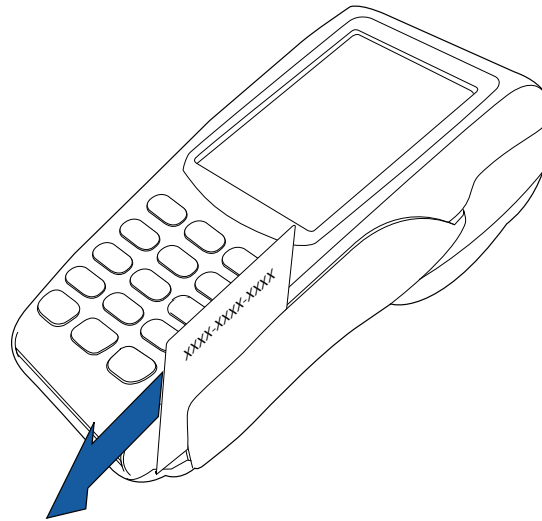

Figure 36 Using the Magnetic Card Reader
- 2 To ensure a proper read of the magnetic swipe card, the user should insert the magnetic card from the top of the unit, as shown in Figure 36.